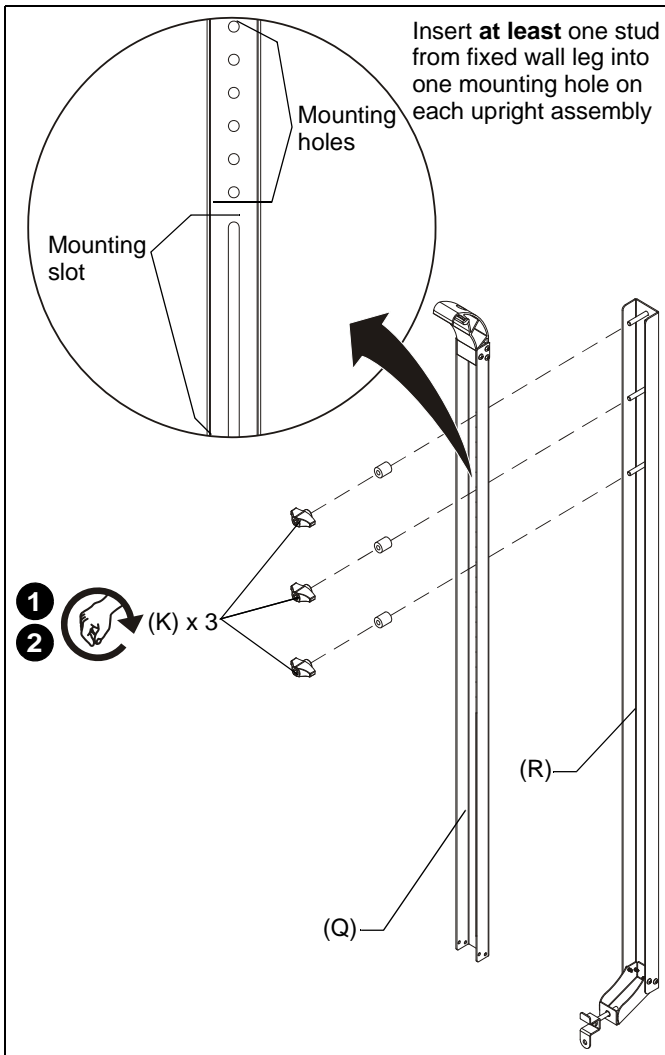

Figure 1
1. Attach fixed wall leg (R) to upright assembly (Q) using three .625 x .260 x .750" spacers (M) and knobs (K). (See Figure 1)